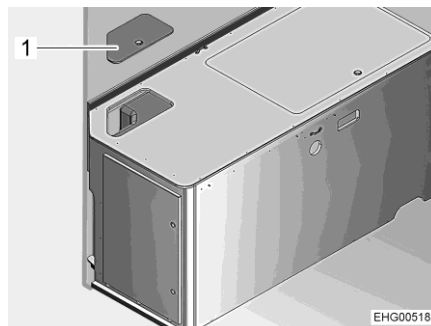

Fig. 120 Bedding box on the left
- Remove the service cover (Fig. 120,1).